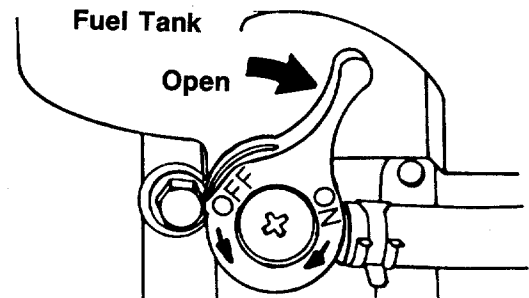

FIGURE 18.
3. The fuel shut-off valve is located beneath the fuel tank. The fuel shut-off valve should be in the open position. See figure 18. Open fuel shut-off valve if it is closed.